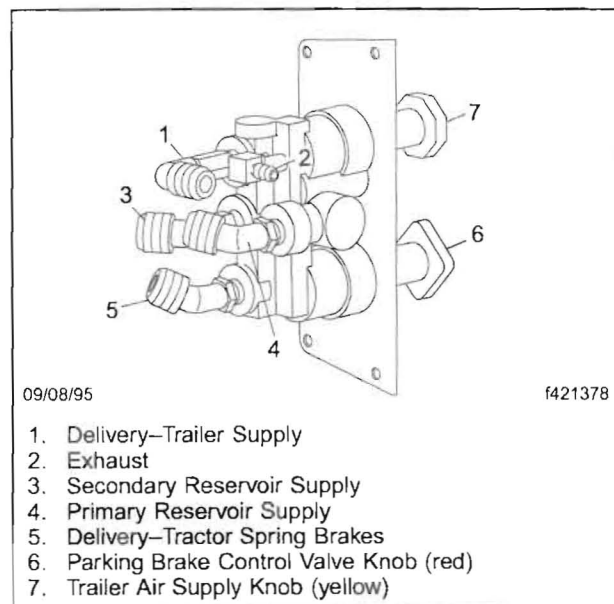

Fig. 13, MV-3 Parking Brake Valve
2. Push in the red knob. The knob must stay in. Leakage at the exhaust port (see Fig. 13) must not exceed a 1-inch (25-mm) bubble in 5 seconds.
11. Close all leakage points and charge both reservoirs to 120 psi (827 kPa). Position the red knob out and the yellow knob in. Develop a leak in the spring brake delivery line (see **Fig. 13**) and hold the yellow knob in. The air reservoir pressures will go to zero. The dual-circuit supply valve shuttle should cycle during the leak-down period.